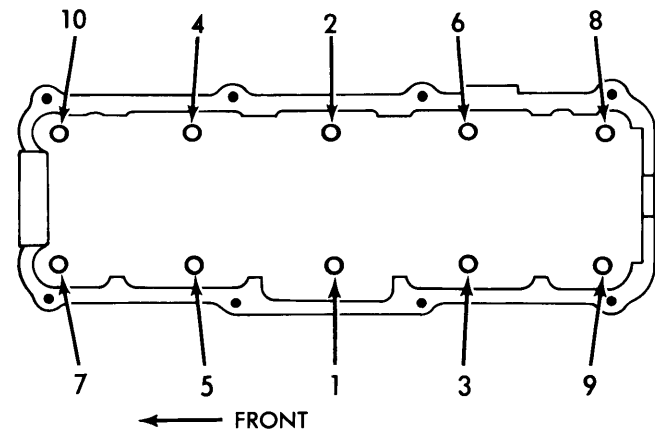

Fig. 1 Cylinder Head Tightening Sequence
2) Loosen head bolts in reverse of tightening sequence (See Fig. 1). To install, ensure that cylinder head and block mating surfaces are clean and install cylinder head gasket DRY. Tighten head bolts in sequence illustrated as follows: Step 1 — 29 ft. lbs. (4.0 mkg); Step 2 — 43 ft. lbs. (6.0 mkg); Step 3 — 54 ft. lbs. (7.5 mkg) plus ¼ turn (90°) more.